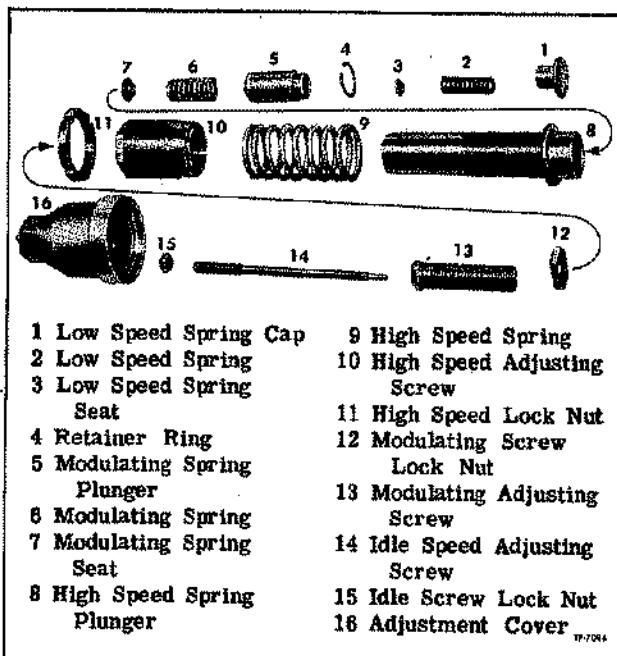

Figure 37—Governor Springs, Plungers, and Adjusting Screws (Standard)
Springs, plungers and adjusting screws (Fig. 37) can be removed from control housing as an assembly with governor either installed or removed; however, it is necessary that control housing cover (7) and levers assembly be removed.
1. Remove adjustment cover (44). Loosen high speed adjusting screw lock nut (37) using spanner wrench. Use end wrench to thread high speed adjusting nut (38) out of control housing. When adjusting nut is free of housing entire assembly of springs and plungers can be removed and placed on bench for further disassembly.